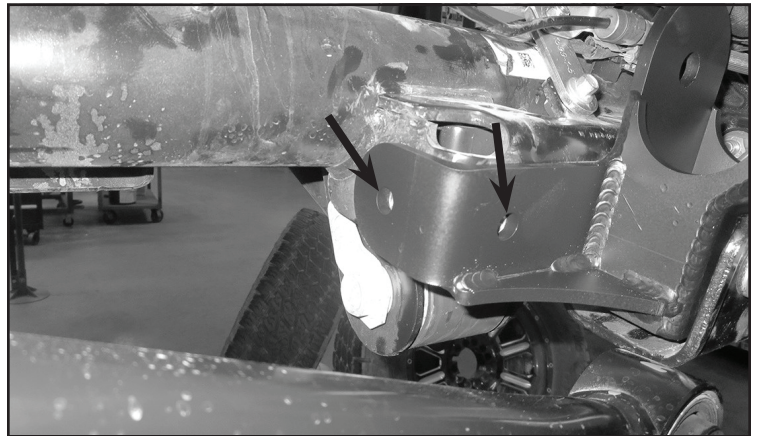

FIGURE 24 - STEP 36
36. Install FT30991 (Track bar bracket) onto the factory axle mount using the factory bolt. Then, using the new bracket mark the two holes on the factory mount. Remove the bracket and drill the holes using a 1/2" drill bit. **SEE FIGURE 24**